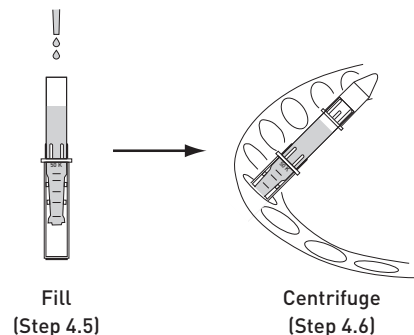

Figure 5 Purification and concentration of azide-modified antibody
4.5 Add 1.5 mL of 1X Tris pH 7.0 (or TBS) and 350  $\mu$ L of the azide-modified antibody from Step 3.3 to the large antibody concentrator (Component I) as shown in Figure 5.